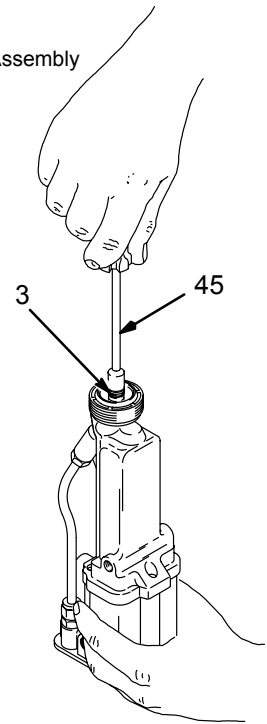

Fig 21
3. Remove the fluid packing rod assembly (3), using the 9 mm hex nut driver (45). See Fig 21.